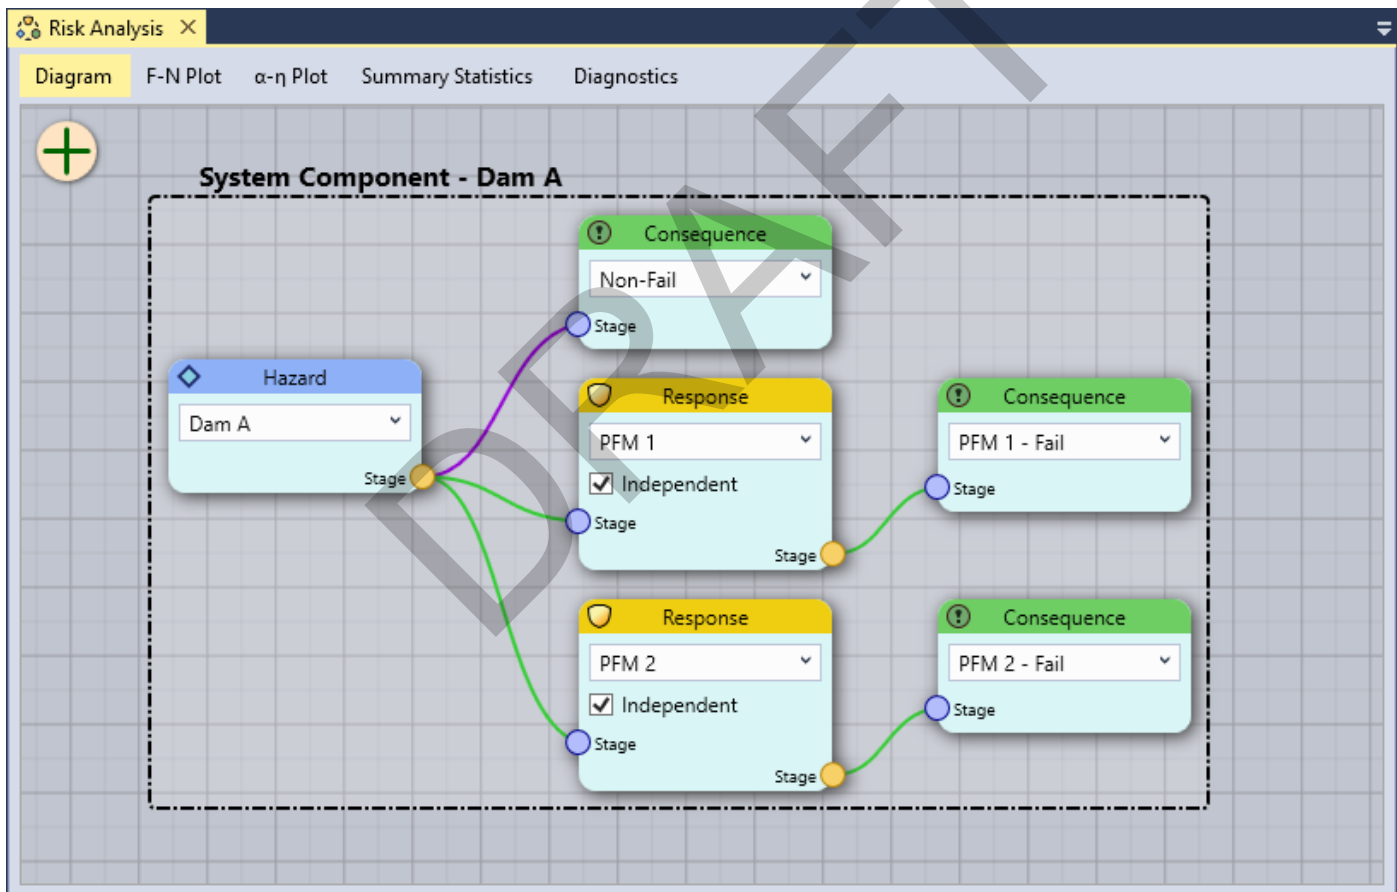

Figure 124 – RMC-TotalRisk risk diagram.
A risk analysis in RMC-TotalRisk is defined through a diagram as shown in Figure 124 below. The diagram provides an intuitive way to create and connect the various components of the modeled system.
Figure 124 shows a single system component for a dam safety risk analysis. There is a non-failure mode, shown at the top of the diagram with the purple line, that connects the hazard function to the non-failure consequences, without any system response. For many dams, there will often be consequences even if the structure does not fail. For example, during a major flood event, a dam could activate the emergency spillway, preventing the dam from reducing downstream flooding. The non-failure mode is used to model the risk of non-failure [1]. There are two failure modes: 1) A spillway erosion failure mode, labelled PFM 1, shown in the center of the diagram connects the hazard function at Dam A to the PFM 1 response function and consequence function; and 2) A concentrated leak erosion failure mode, labelled PFM 2, shown in the bottom of the diagram with the same respective connections.
Figure 124 shows the risk diagram for a levee risk analysis. The hazard function is a river peak flow-frequency curve. Peak flow is transformed to a peak river stage using a flow-to-stage rating curve derived from a hydraulic routing model. There is a prior to overtopping failure mode (Prior OT) from backwards erosion piping, and an overtopping (OT) failure mode. There are two failure modes shown with green connectors. The non-failure mode is shown at the top with the purple connectors. Non-fail consequences are connected directly to the hazard transform function with no response function in between.